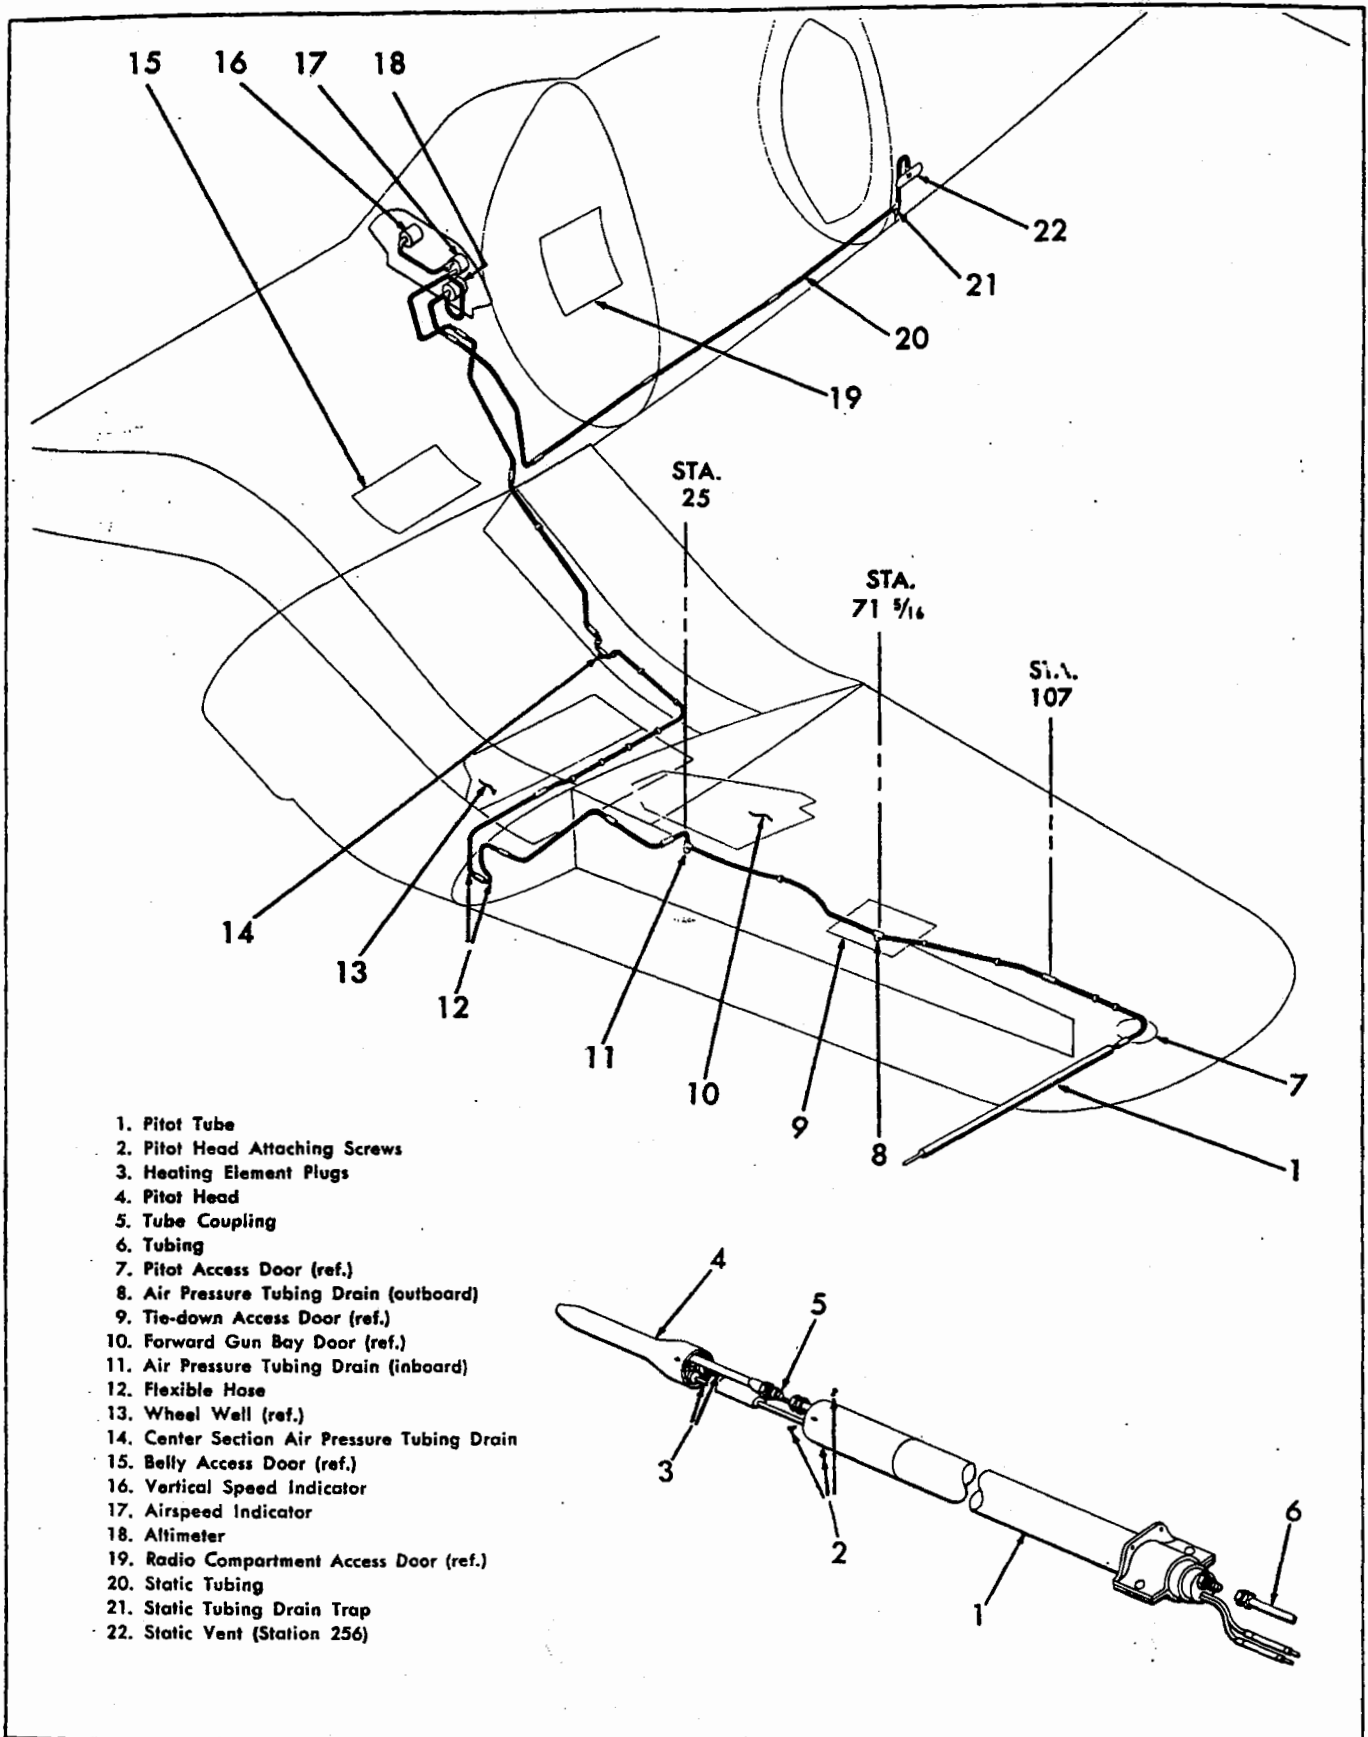

Figure 4-127. Pitot Static System.
4-1283. DESCRIPTION. (See figure 4-127.) The airspeed system consists of a pitot head (AN5813-1), tubing for conveying ram air pressure to the airspeed indicator on the instrument panel, a static pressure vent (NAF 600326) at station 256, and tubing from the static vent on left hand side of fuselage to instrument panel. The static vent line connects to the airspeed indicator, altimeter and vertical speed indicator (climb indicator). The ram air pressure line from the pitot head connects to air speed indicator only.
4-1285. DESCRIPTION. (See figure 4-127.) The pitot air pressure is carried from the pitot head on the left hand outer panel to the rear of the airspeed indicator through aluminum tubing, color-coded by 1/2 inch bands of black approximately every 20 inches. The tubing runs inboard along the aft face of the main outer panel beam to the gun bay, thence forward of the main beam to the wing fold. Flexible hose is used at point of wing fold; flexible hose also continues on to the center section main beam. Tubing runs aft within center section to the forward face of the rear beam, and inboard through the wheel well into the fuselage and cockpit. Tee drains are provided in the system at three points. The first tubing drain (8) is located at approximately wing station 71 5/16 and is accessible through the tie-down door (9). A second tubing drain (11) is located at approximately station 25 and is accessible through the forward gun bay door (10). The third drain (14) is located in the center section and is accessible through the wheel well. The flexible hose at the wing fold may also be considered as a drain. Tubing from the static vent to instrument panel is covered in paragraphs 4-1296 through 4-1302.
4-1287. REMOVING. (See figure 4-127.) Tubing may be removed by disconnecting each section at unions and loosening clamps that secure tubing to airplane.
4-1291. DESCRIPTION. (See figure 4-127.) The pitot head, R88-T-2875 (AN5813-1) is a device for measuring impact air pressure as airplane passes through the air. The pitot head is mounted on a tube which protrudes from left outer wing panel leading edge. The impact air pressure is registered upon open tip of pitot head. The impact air pressure is transmitted through inner pitot tube and through aluminum tubing to airspeed indicator. Within the pitot head is a hermetically sealed heating element which provides strong internal application of heat to prevent formation of ice on or within tube. The switch to control the heating element
4-1293. REMOVING. (See figure 4-127.) To remove pitot head, proceed as follows:
4-1297. DESCRIPTION. (See figure 4-127.) From the static air vent, R88-V-1200 (NAF 600326), on the left hand side of the fuselage, static air pressure is carried forward through aluminum tubing to the altimeter, airspeed indicator, and vertical speed indicator.
4-1300. REMOVING. (See figure 4-127.) Disconnect each section of tubing at unions. Sections aft of bulkhead 186 are accessible through radio compartment access door. Sections forward of bulkhead 186 are accessible through belly access door. The static vent is a fixed installation; rivets must be drilled out to remove it.